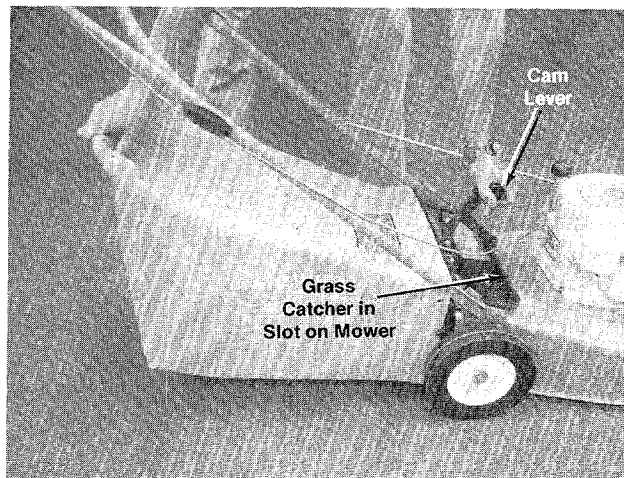

FIGURE 7
1. Attach the grass catcher frame to the front of the adapter as shown in figure 7.
3. Move the cam lever towards the rear of the mower. (See figure 7.) This locks the grass catcher in place and opens the door.